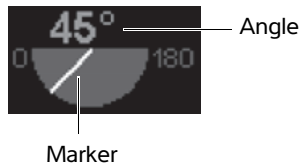

Figure 2-8 Scanplane indicator
A scanplane indicator on the system screen shows the orientation. The scanplane angle is indicated by a marker and a value. See **Figure 2-8**. The screen shows the angle relative to the standard monoplane, displayed as 0°. The scanplane angle ranges from 0° to 180°.
- 4 Confirm that the image on-screen changes in relation to the numbers on the scanplane indicator. See Figure 2-8.